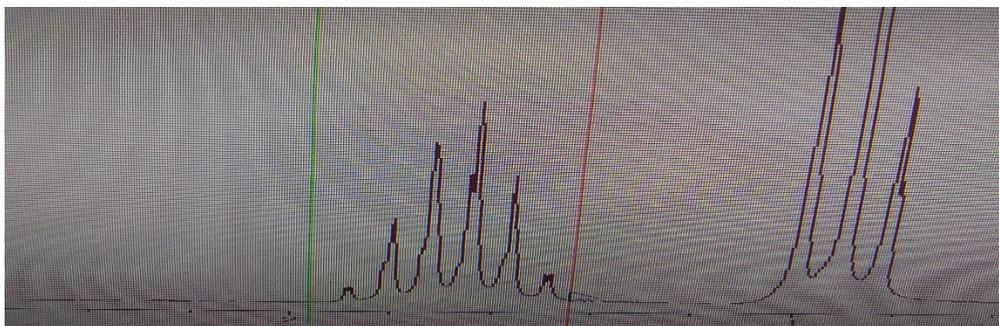

Figure 18. The NUTS program showing the integration process.
22) Bring the cursor next to the peak to be integrated, double click the left mouse button to appear green line (a red line will appear on the first click) move the cursor at the end of the peak, and single-click the left mouse button. Repeat this for all other peaks. See Figure 18.